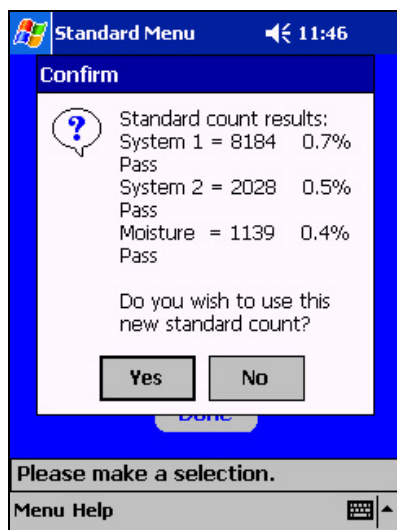

Figure 4–3. Standard Count Results
- If the standard count *fails* and it has been *less than a month* since the last standard count, but the count was performed correctly and the *failure is less than 5%*, press the **<Yes>** button. If the *failure is more than 5%*, press the **<No>** button. Ensure that the gauge is properly positioned on the reference standard block (Figure 4–2). Verify that the standard count site meets the criteria listed on page 4–2. Take another standard count and accept it if it fails by less than 5%. If the standard count fails four times, perform a stat test (see page C–2) and a drift test (see page C–5), and then contact your Troxler representative.